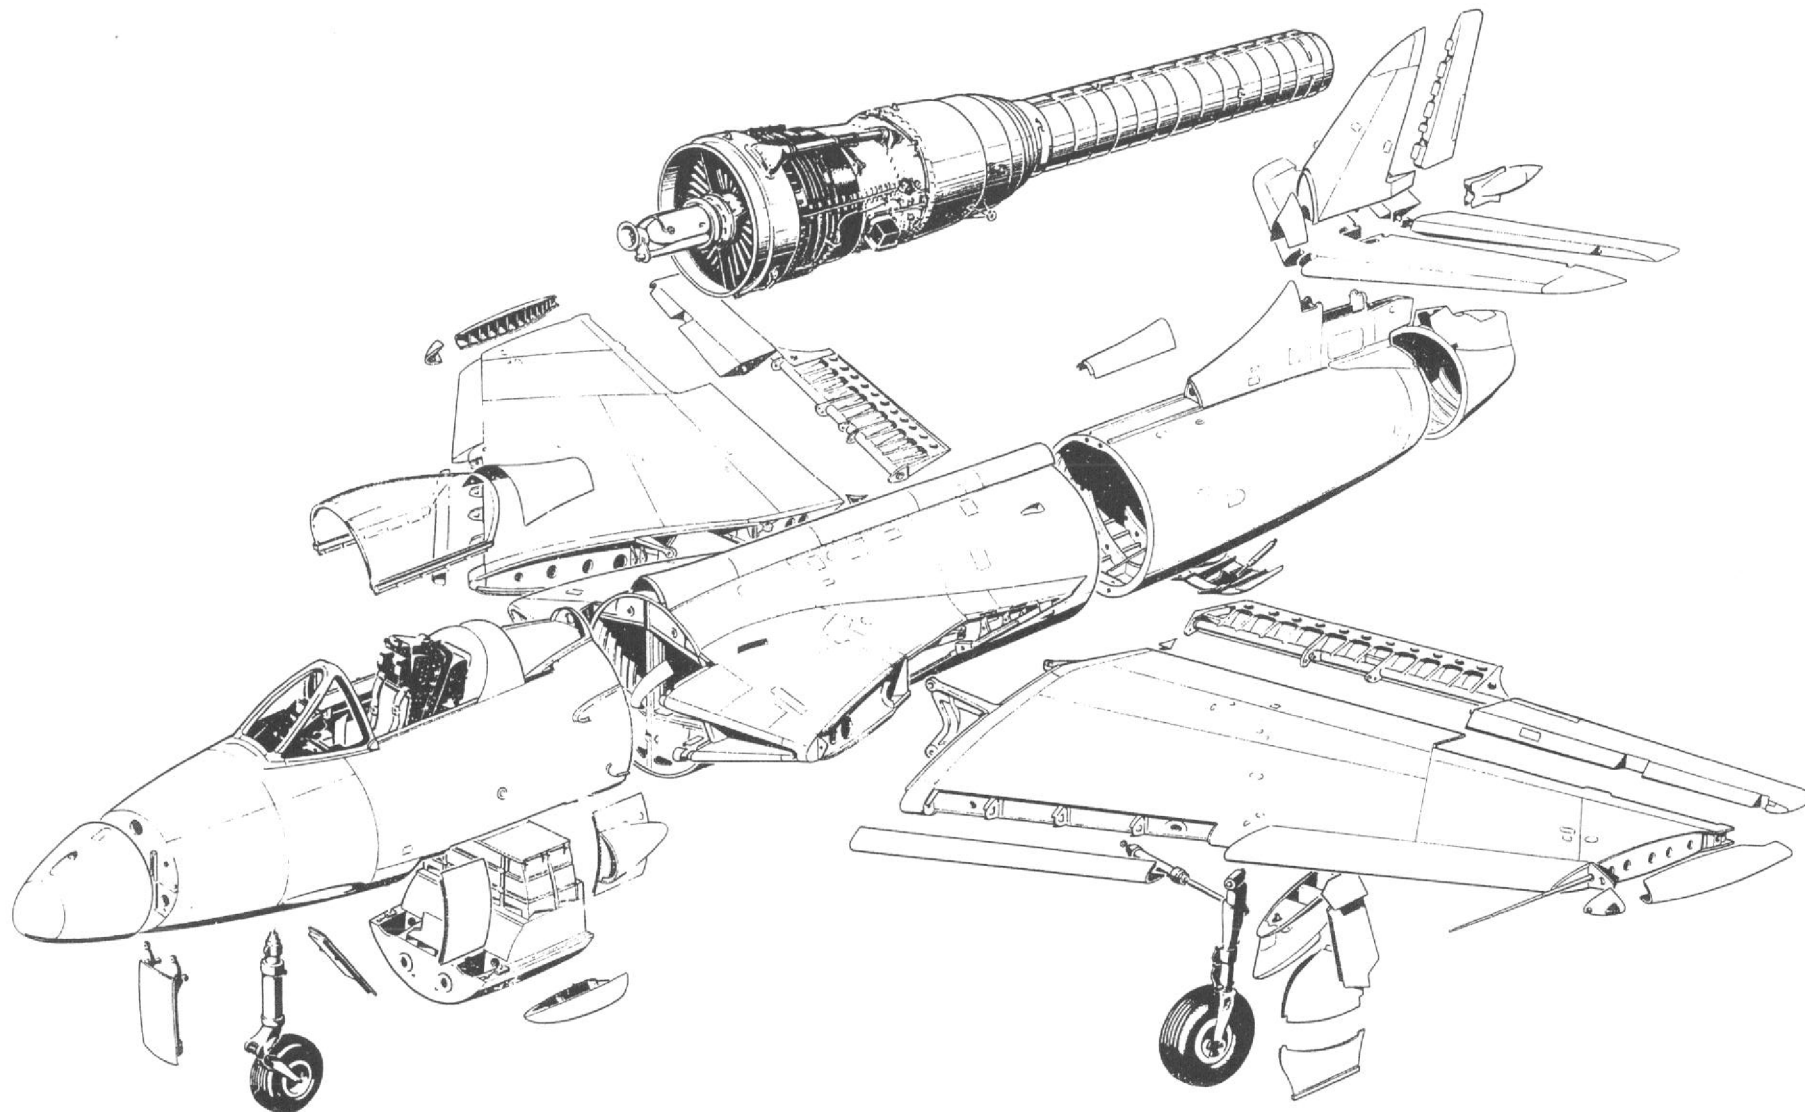

Fig. 1. Major components
Packing Dimensions (fig.1)
4. The breakdown points for dismantling the aircraft are shown in fig.1. The recommended order of dismantling is as follows:-